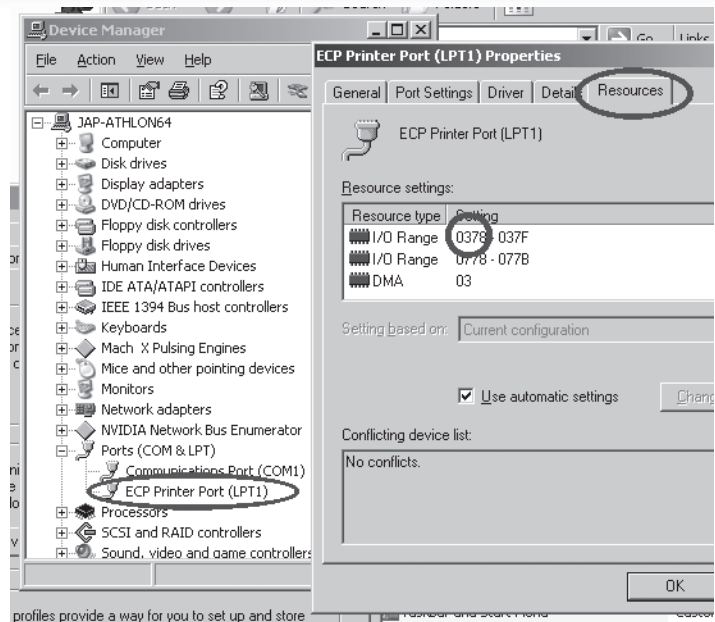

Figure 9.13: IO Address in Resources
8. Choose the “Resources” tab and take note of the first number under “Setting” that corresponds with the first “Resource Type” I/O Range (figure 9.13). This shows the standard value for a motherboard port. A PCI post will not start with a zero – it will probably be something like CD80 (as it is a hexadecimal number it can have digits A, B, C, D, E or F in it). Write down the four numbers and/or letters. This is your “Printer port address in Hex.”